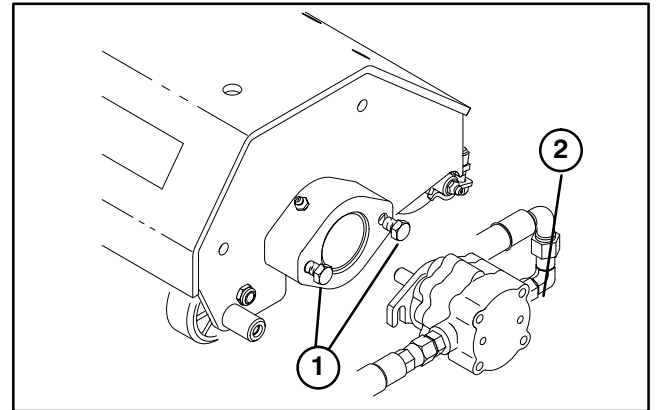

Figure 6
A. Loosen the mounting capscrews and washers for the reel motor to each spiker. Leave approximately 1/2 in. of threads exposed on each mounting capscrew (Fig. 6).